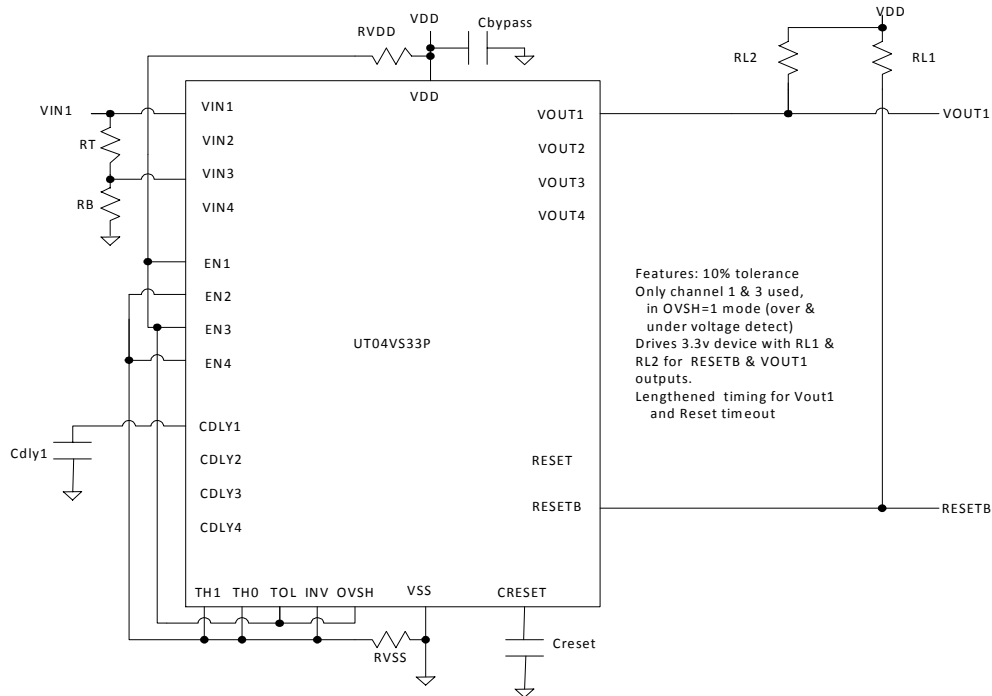
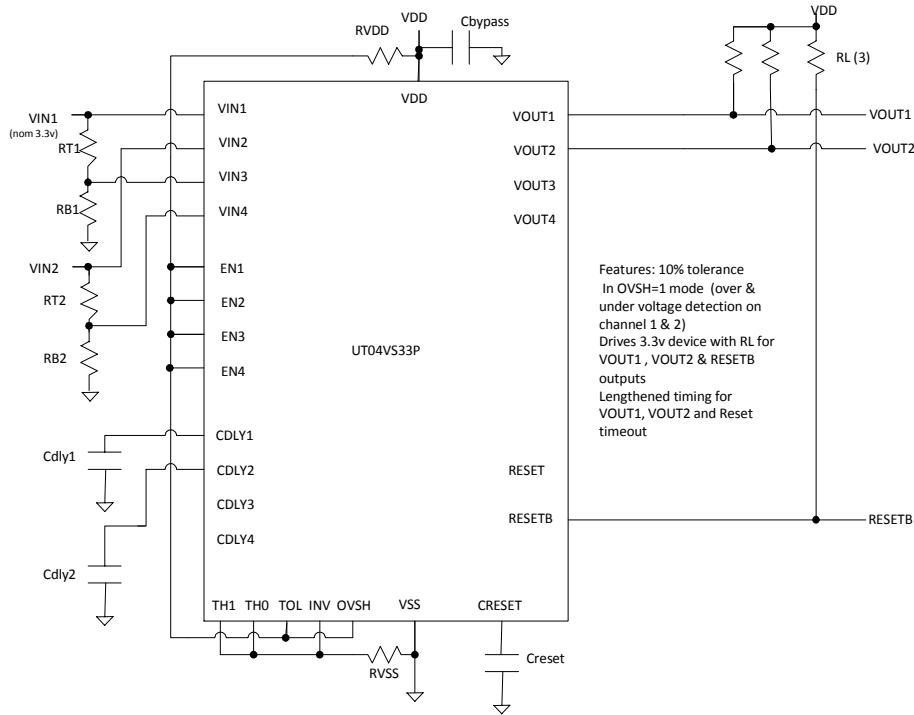

Figure 8. Extended use application showing OVSH connection for channel 1
Figure 9. Extended use application showing OVSH connection for channel 1 and 2
3. For OVSH=1, $V_{TH-OVRV}$ is the threshold which is set with external resistors to either the V_{IN3} or V_{IN4} input to monitor an over-voltage condition in conjunction with the under-voltage monitor by VIN1 or VIN2, respectively, as shown in Figure 8 and Figure 9.
Shown in Figure 8 is an extended application showing the use of Cdly and Creset capacitors. OVSH is set to logic 1 to highlight the under- and over-voltage detection mode connections. Thus, a resistor voltage-divider on channel 3 is connected from the channel 1 source.
Shown in Figure 9 is an extended application showing the use of Cdly and Creset capacitors. OVSH is set to logic 1 to highlight the under- and over-detection mode connections on channel 1 and channel 2. Thus an r-divider on channel 3 and 4 are connected from the channel 1 and 2 source, respectively